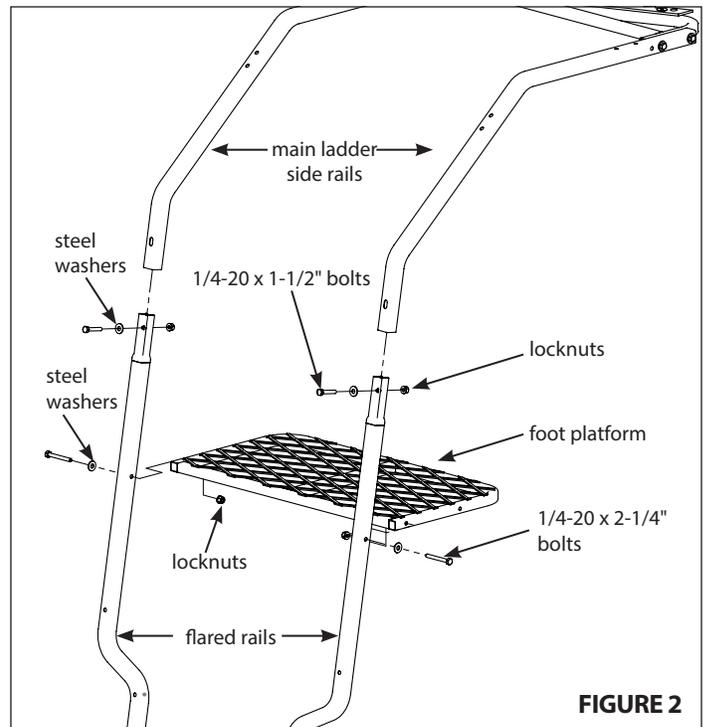

FIGURE 2
2. Insert the crimped end of two flared rails (10375) into the main side rails. Secure using (2) provided 1/4-20 x 1-1/2" bolts, locknuts and steel washers. **SEE FIGURE 2.** Pay special attention to orientation of flared rails.
3. Attach the foot platform (10370) to the inside of flared rails using (2) provided 1/4-20 x 2-1/4" bolts, locknuts and steel washers. **SEE FIGURE 2.**